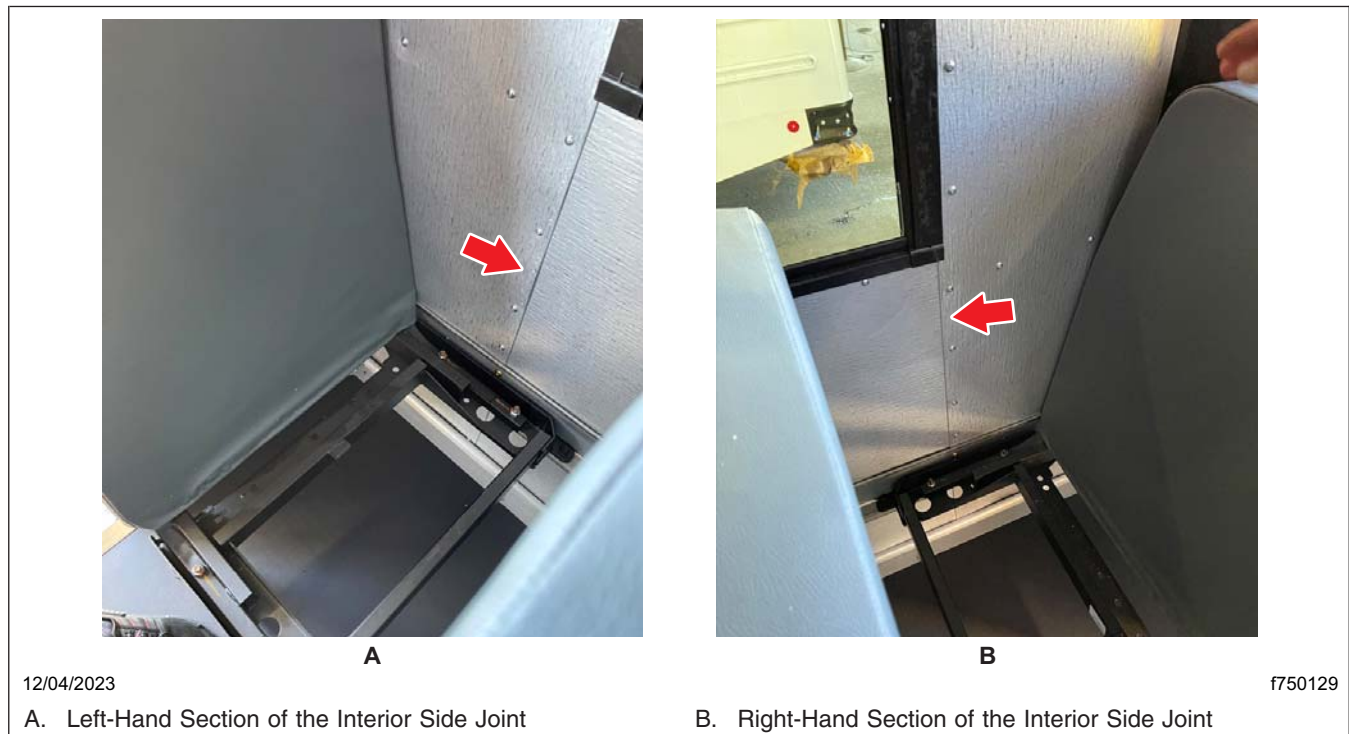

Fig. 1, Left-Hand and Right-Hand Sections of the Interior Side Joint
4. Remove the bottom seat cushion to gain access to the entire interior joint. **Figure 1** shows the left-hand and right-hand sections of the interior side joint.